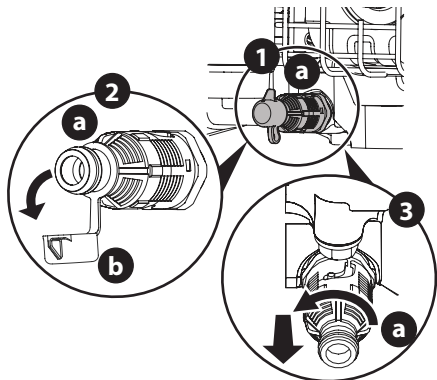

Figure 6
1. Locate the oil drain valve (a) and place a suitable container below the plug (Figure 6).